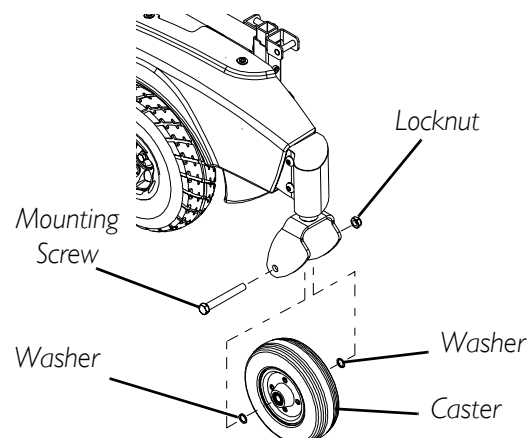

FIGURE 10.3 - REPLACING FRONT/REAR CASTER ASSEMBLIES
NOTE: For this procedure, refer to FIGURE 10.3.
3. Secure new caster to fork with existing mounting screw, two (2) washers and locknut (FIGURE 10.3). Securely tighten.